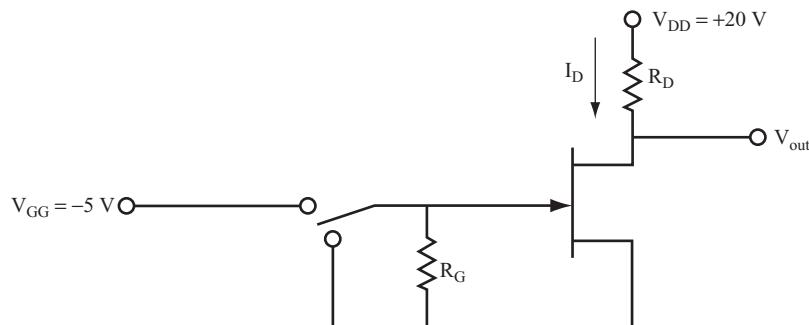

FIGURE 4.29
39 Now, look at the circuit shown in Figure 4.29. Assume that the JFET has the transfer characteristic shown by the curve in problem 38.
- 40** For the JFET circuit shown in Figure 4.29, assume that $V_{DS} = 1$ volt when the I_D is at saturation.